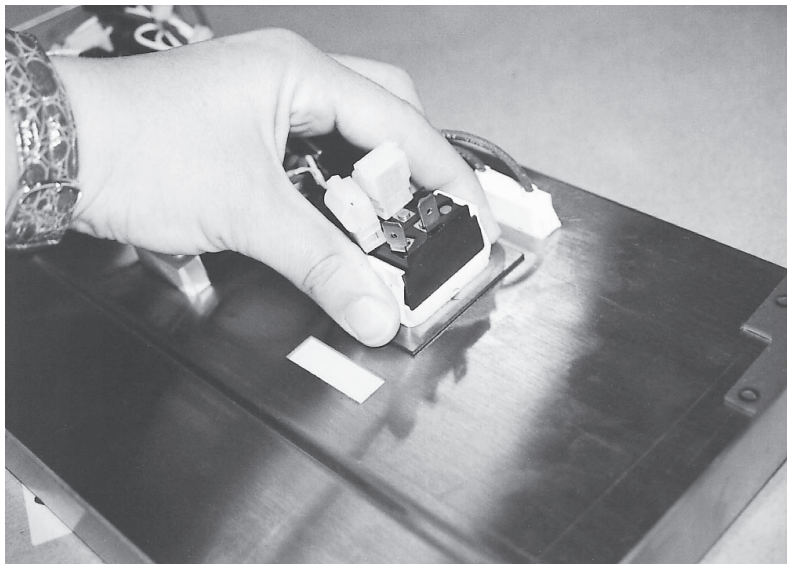

Fig. 20
3. Press tabs on both sides of the switch and push the switch through the front of the control panel. (Fig. 20)